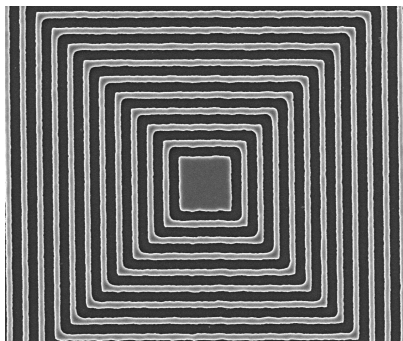

Fig. 4 - ½µm pitch pattern. Overall size is 40µm. 4 of these patterns are located 1 mm above the “MM” just below the pattern center.
- Magnification is simply defined as the ratio of the image size to object size (be careful to use the same units - µm, mm, nm, etc.). Please carefully note the locations of the above magnification measurements relative to the patterns in figure 4, 5, and 9.